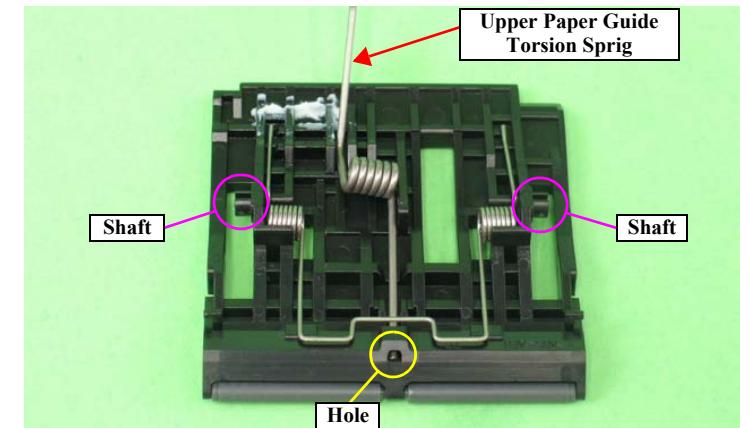

Figure 3-138. Reinstalling the Upper Paper Guide Torsion Spring
5. Lift the six Upper Paper Guide Assys from the Main Frame to release the shaft referring to Figure 3-138, and remove the Upper Paper Guide Assys to the rear.